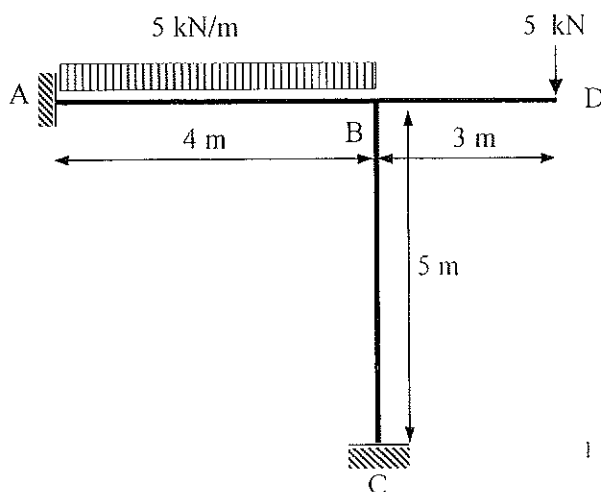

Figure 2(b)
- (b) A non-sway frame is shown in Figure 2(b). Second moment of area of the member AB is twice than that of the member BC. Using **Slope Deflection Equations**, analyse the frame and draw the bending moment diagram. (12 Marks)